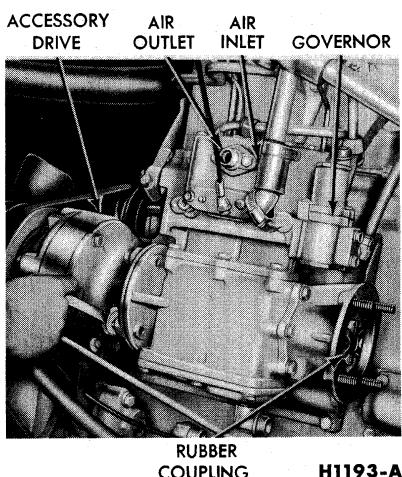
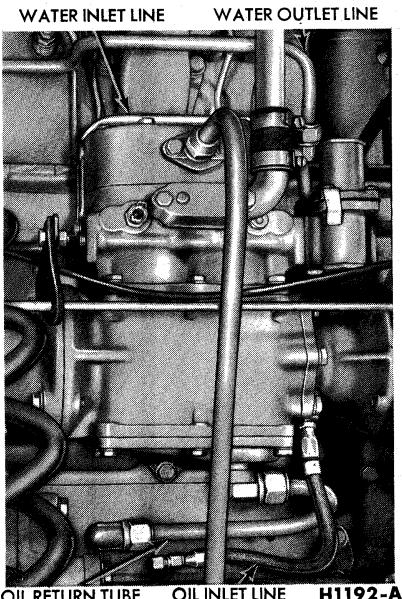
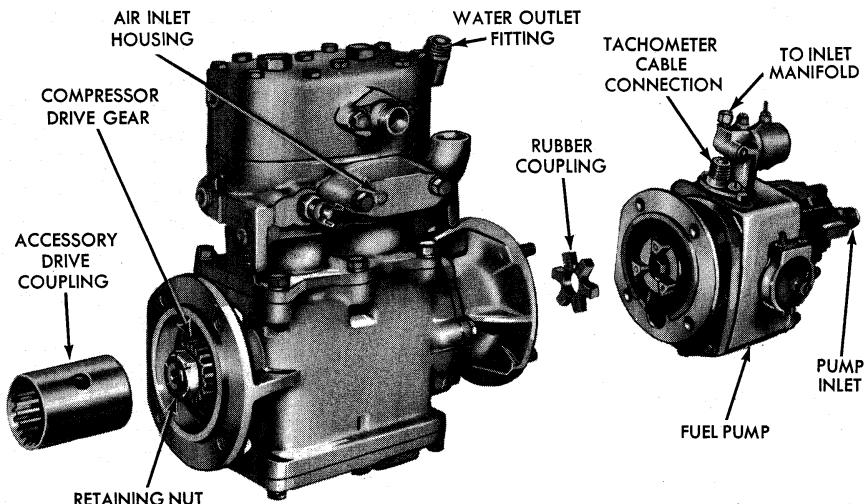

FIG. 8—Removing or Installing Air Compressor—Cummins
FIG. 9—Air Compressor and Fuel Pump Installed
FIG. 10—Air Compressor and Fuel Pump Removed
3. Remove the rubber coupling from the drive unit (Fig. 8).
5. Disconnect the air compressor oil inlet line at the engine block (Fig. 9).
7. Disconnect the water inlet and outlet lines and the air inlet and outlet lines from the compressor (Figs. 8 and 9).
8. Remove the two nuts and lockwashers that hold the compressor to the support bracket, and the four capscrews and lock washers that hold the compressor to the accessory drive (Fig. 8).
9. Remove the compressor and the splined accessory drive coupling (Fig. 10). Discard the old gasket.
1. Assemble the splined accessory drive coupling to the compressor drive gear (Fig. 10), and mount the compressor to the accessory drive, using a new gasket. Install and tighten the four capscrews and lock washers (Fig. 8).
3. Connect the water inlet and outlet lines (Fig. 9), and the air inlet and outlet lines to the compressor (Figs. 8 and 9).
4. Connect the air compressor oil return tube at the bottom of the compressor and at the engine block (Fig. 9).
6. Mount the governor to the compressor, and install the two governor-to-compressor retaining screws (Fig. 8).
7. Install the fuel pump to the compressor rear flange with a new gasket and rubber coupling in position (Figs. 8 and 10), then connect the throttle linkage and lines as described in Group 10.
2. Remove the compressor drive gear retaining nut, then remove the drive gear from the compressor crankshaft using a universal puller (Fig. 10).
4. Transfer the water inlet and outlet fittings, the air outlet fitting, and the oil return fitting from the old to the new compressor (Figs. 8, 9 and 10).
5. Transfer the air inlet housing and screen from the old to the new compressor (Fig. 10).
8. Install the splined compressor drive gear to the crankshaft of the new compressor, and secure with a flat washer, lock washer and nut (Fig. 10).